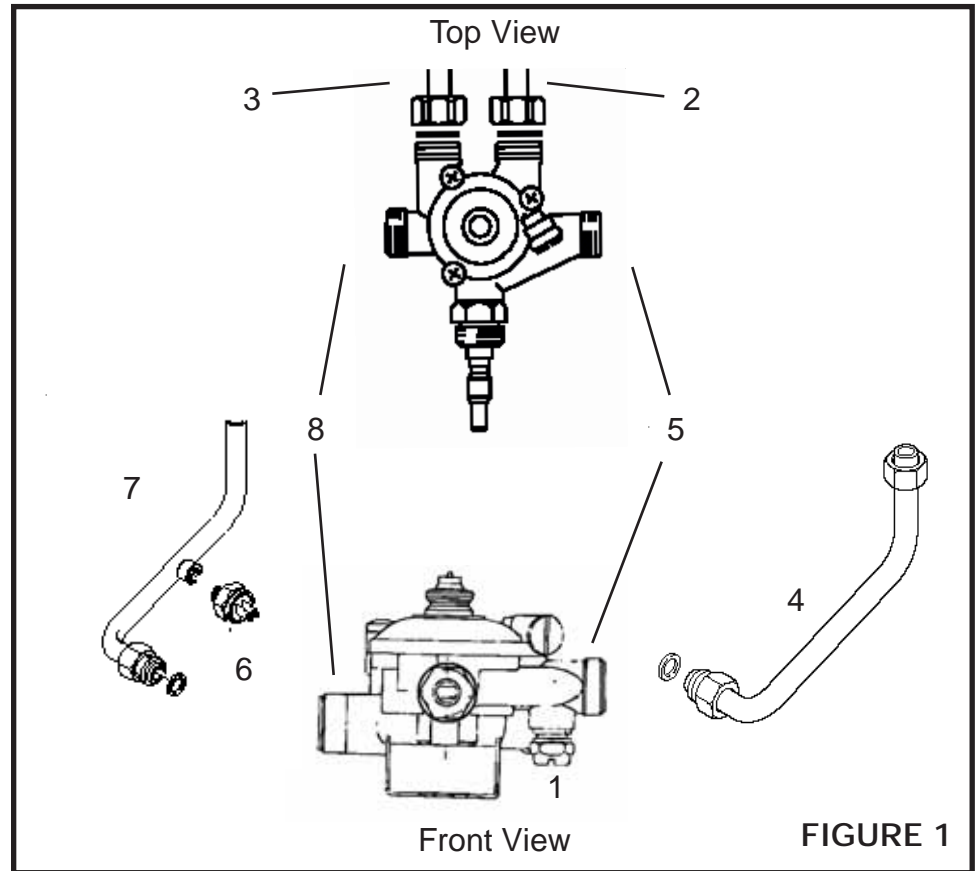

FIGURE 1
For steps below refer to Figure 1, Page 2
6. Install ECO (#6 from Figure 1) into threaded fitting (I) on new hotwater pipe. Reattach two wires to ECO, there is no polarity so it does not matter which goes where.
7. Using two new large fiber washers (H), reconnect cold water inlet (Fig 1, # 2) and hot water outlet (Fig 1, # 3) to back of water valve.